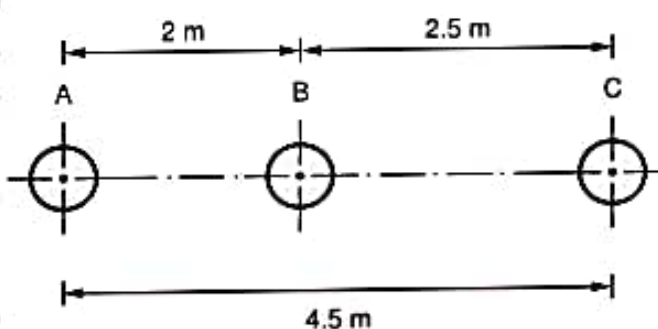

Fig. 1
- b) A 3-phase 50 Hz, 66 kV overhead line conductors are placed in horizontal plane as shown in Fig. 1.